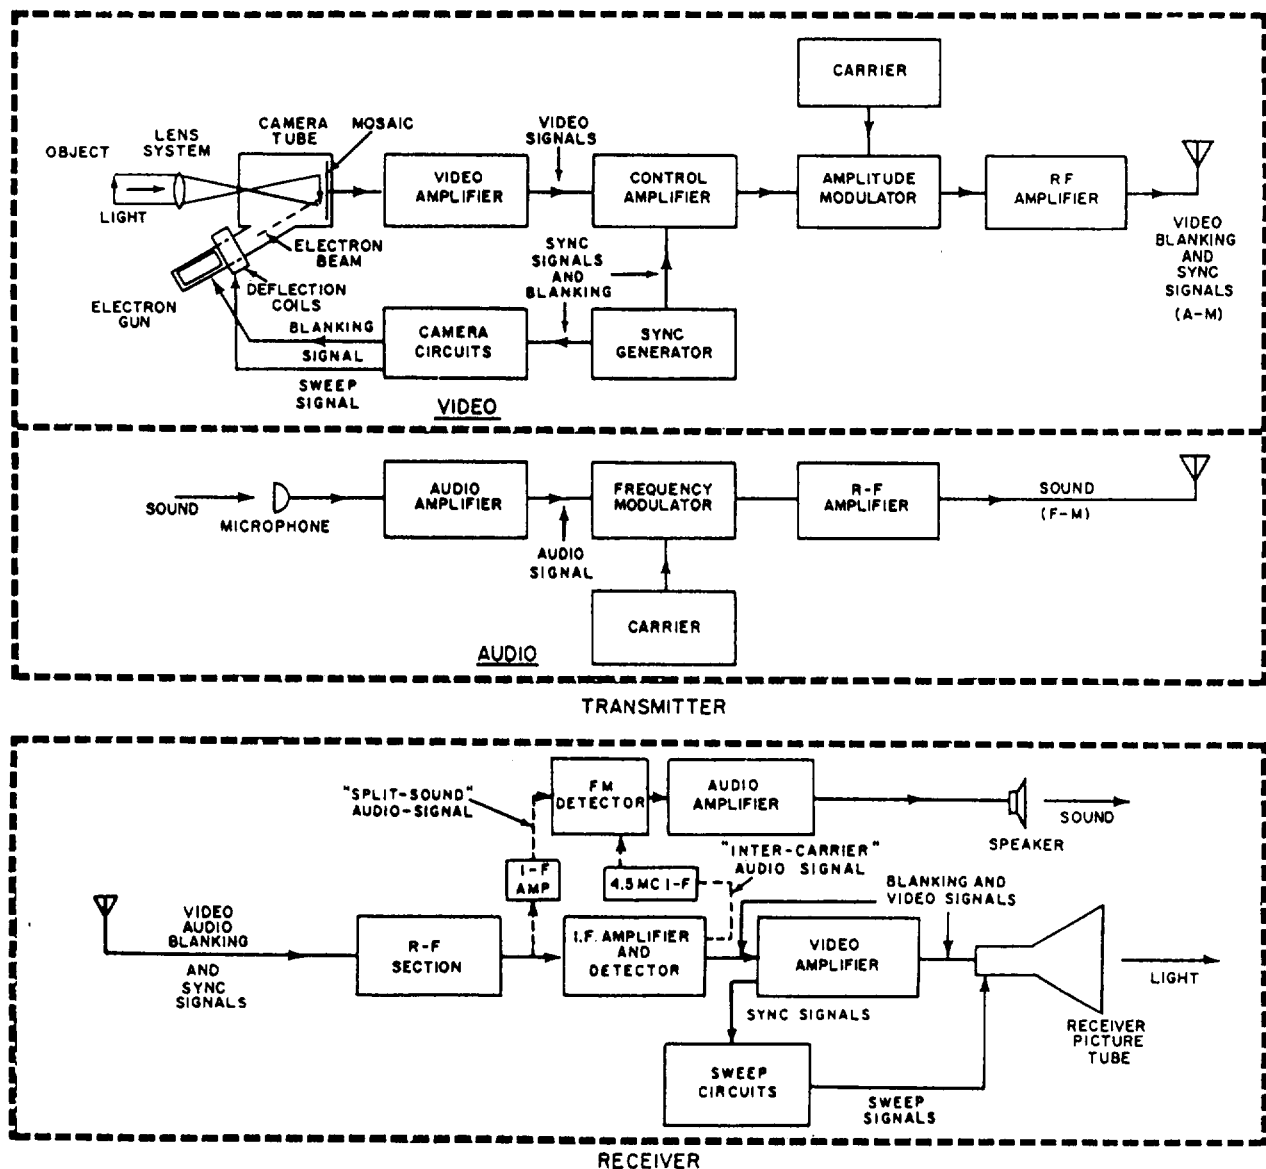

Figure 8-3.—Simplified block diagram of a commercial television.
A block diagram of a standard home television system is shown in figure 8-3. There are three main divisions in the diagram. The top division represents the video or picture section of the transmitter. The central division represents the audio or sound section of the transmitter. The lower division represents the television receiver.
The camera tube provides a means of converting light, from an object on which the camera is focused, into electrical impulses. Light from the object is focused on the light-sensitive surface (called the mosaic or photoconductive material) in the camera tube by the lens system. The camera tube contains an electron gun, which generates and controls a stream of electrons. The gun directs the narrow stream of electrons in such a manner that it traverses (scans) the mosaic line by line. As the beam strikes a spot in the mosaic, it generates a small electrical impulse that corresponds to the lightness or darkness of that particular tiny portion of the image. The electrical impulses generated in this manner are sent to the video amplifier (fig. 8-3).
Video signals from the camera are amplified and distributed to the receiver/monitor. The output signals from the control unit contain vertical and horizontal blanking, sync, and video signals. The control unit consists of the following sections, shown in figure 8-3: video amplifier, control amplifier, carrier, amplitude modulator, radio-frequency (RF) amplifier, sync generator, and the audio controls.